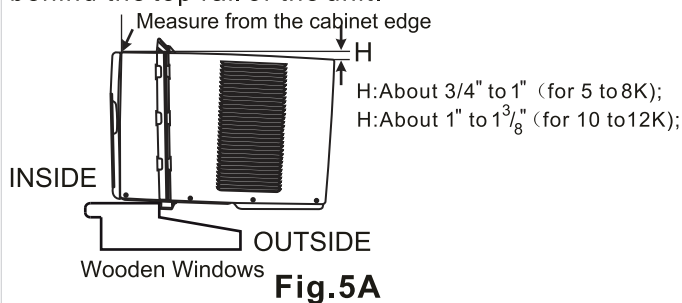
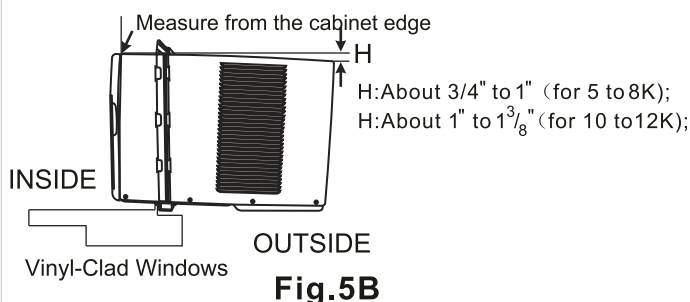

Fig.5A
Fig.5B
- A. Keep a firm grip on the air conditioner, carefully place the unit into the window opening so the bottom of the air conditioner frame is against the window sill (Fig. 5A and Fig. 5B). Carefully close the window behind the top rail of the unit.
NOTE: Check the air conditioner is tilted back about H (Fig. 5A and Fig. 5B) (tilted about 3° to 4° downward to the outside).